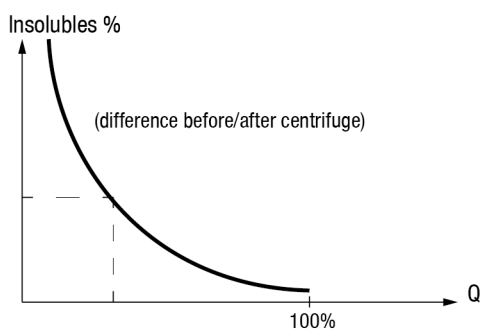

Figure 1: .
Practical experience has revealed that the content of insolubles, before and after the centrifuge, is related to the flow rate as shown in Fig. 1.
Fig. 1 illustrates that the amount of insolubles removed will decrease with rising flow rate (Q).